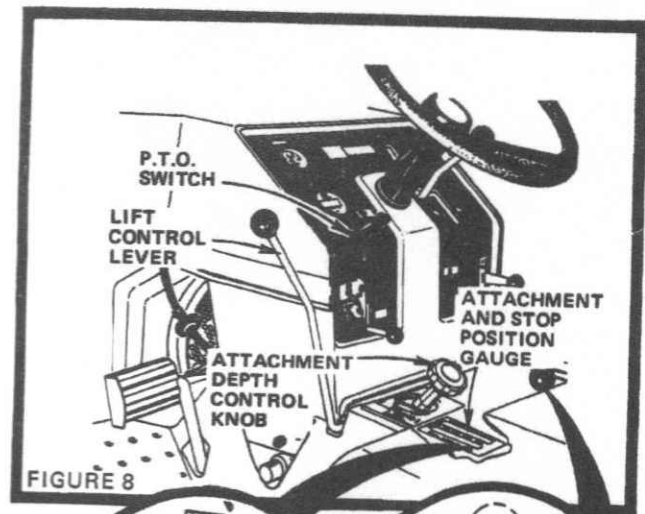

FIGURE 8
NOTE: ATTACHMENT POSITION AND STOP POSITION (FIG. 8 - INSET) TO BE DOWN.
NOTE: LIFT CONTROL LEVER TO BE IN FORWARD POSITION AS SHOWN IN FIG. 8.
2. Move Axle Range Selector (Fig. 8 - Inset) to desired position.